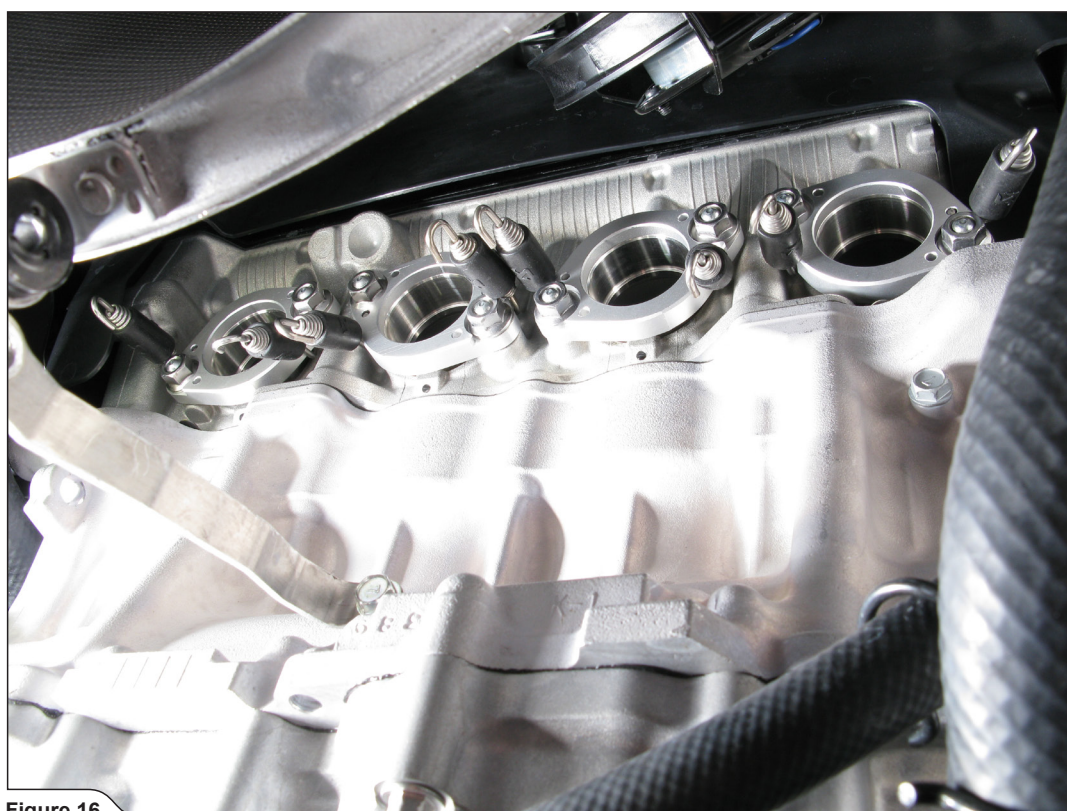

Figure 16
4. Correctly orient and hand tighten the assembled flanges with sleeves and springs onto the cylinder head (Figure 16).